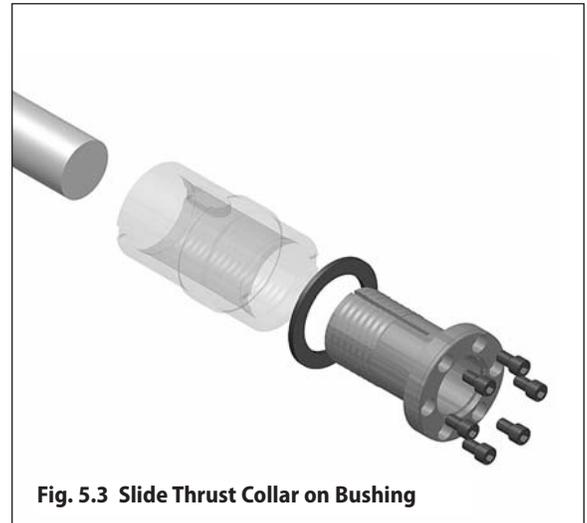

Fig. 5.3 Slide Thrust Collar on Bushing
Step 2 – Slide the thrust collar onto the Taper-Grip® bushing (see Fig. 5.3).